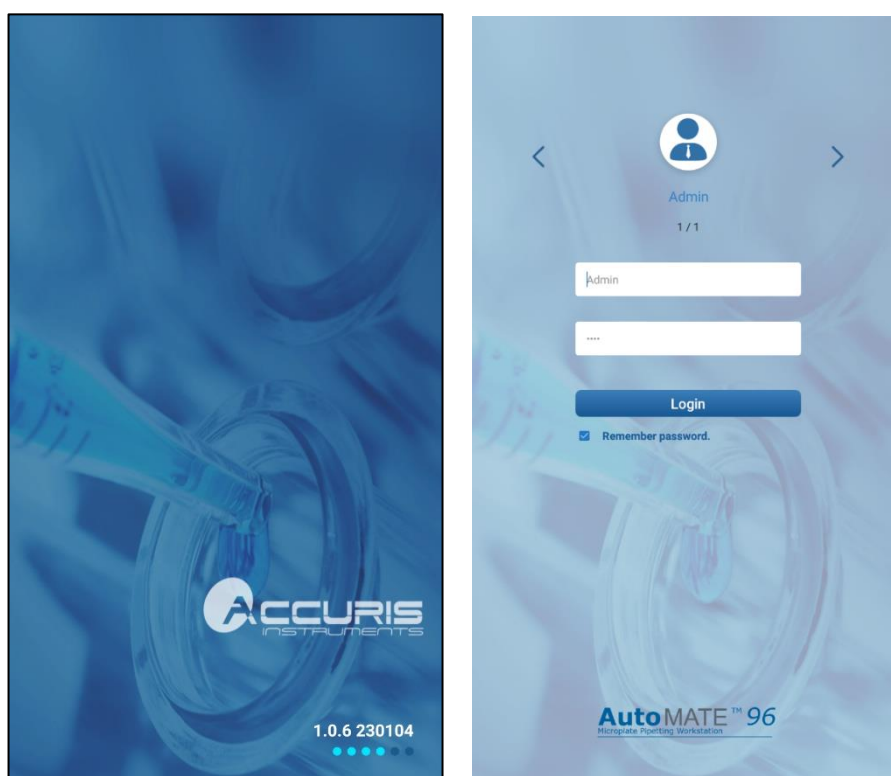

Fig 5. Login interface
- Turn on the main power switch, as depicted in Figure 5, to the "I" position. Confirm that the instrument is powered on and that the Operational Indicator Light is lit.